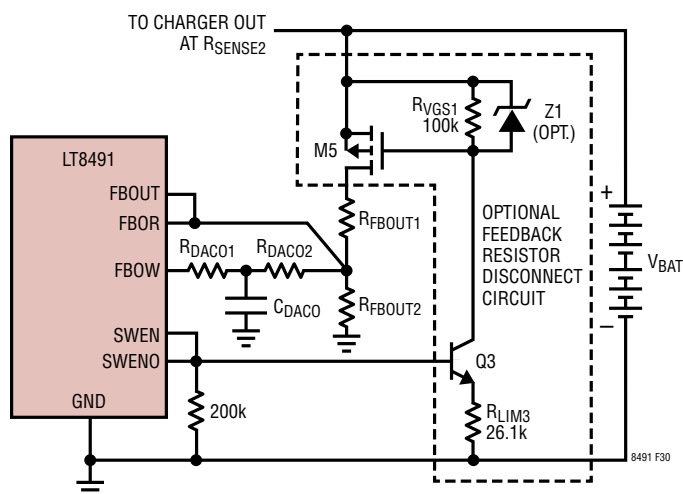
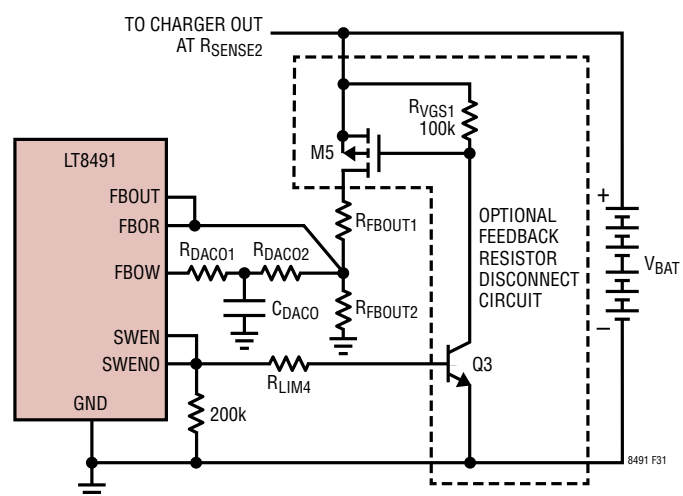

Figure 30. Optional Feedback Resistor Disconnect Circuit #1
Figure 31. Optional Feedback Resistor Disconnect Circuit #2
If desired, the resistors can be automatically disconnected from the battery when charging stops by using one of the circuits shown in Figure 30 and Figure 31. The circuits are controlled by the SWENO signal from the LT8491 and connect the resistor feedback network when charging is taking place. When charging stops, the network is disconnected and current draw from the battery becomes negligible.
**Selecting Z1:** Due to the transients that may occur during hot-plugging of a battery, this Zener diode is recommended to protect device M5 from excessive gate to source voltage. If using device Z1, the reverse breakdown voltage should be selected such that  $V_{GS(ON)} < V_{Z1(BREAKDOWN)} < V_{GS(MAX)}$  where  $V_{GS(MAX)}$  is the maximum rated gate to source voltage specified by the device manufacturer. The BZT52C13 has a reverse breakdown voltage of 13V making it suitable for the  $R_{LIM3}$  value shown in Figure 30.
**Alternate Circuit:** For lower battery voltages ( $< 20V$ ), Q3 in Figure 30 may saturate. To avoid this, consider connecting the emitter of Q3 directly to ground by removing  $R_{LIM3}$  and adding resistor  $R_{LIM4}$  to the base of Q3 as shown in Figure 31. Employing the optional feedback resistor disconnect at arbitrarily low battery voltages will be limited by the required gate to source voltage of M5.
Figure 35 shows how to combine the remote sensing circuit (Figure 34) and the feedback resistor disconnect (Figure 30) for applications that require the most accurate battery voltage sensing and negligible battery drain when charging completes. The  $R_{VGS1}$  resistor can no longer connect to the source of M5 (as in Figure 30) since the  $R_{VGS1}$  current would also flow through  $R_{FBOUT1}$  causing an error in the measured battery voltage. Figure 34 shows that  $R_{VGS1}$  has been reconnected to the (+) battery sensing terminal.